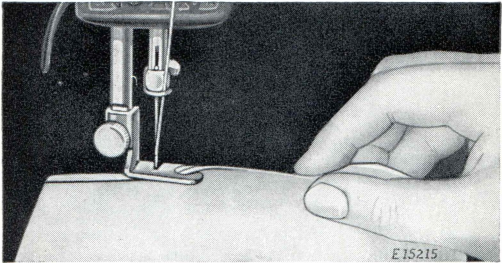

FIG. 21. STARTING A HEM AT THE EDGE
3. Draw the material toward you through the Hemmer, as shown in Fig. 21, at the same time making the second fold at the very edge. Continue to draw the material through the Hemmer until the edge is just under the needle. Place the upper and lower threads together under the Hemmer foot and assist in starting of the hem by slightly pulling the threads from the back as the machine is run.